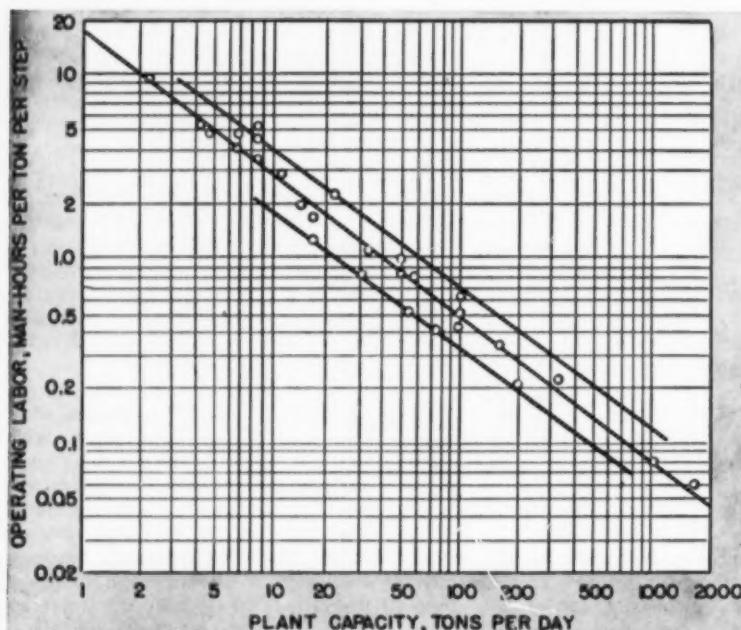

Fig. 1.
The relationship between the factors of operator hours and output may be expressed conveniently either as output per man-hour or as man-hours per unit of production. Wessel (14) has set forth a correlation between operating labor data for chemical processes and man-hours per ton required for each of the steps in the process. Combining the data originally described by Chilton (3) and by Faith, Keyes, and Clark (7), Wessel demonstrates without regard to the particular process a significant relationship between operating labor in man-hours per ton per processing step and the size of the plant in tons of product per day. This is illustrated in Figure 1.